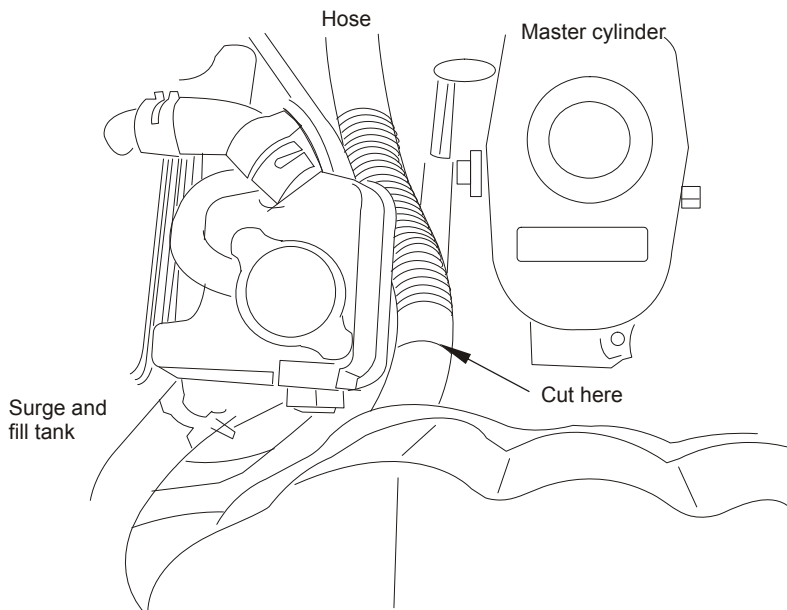

Figure 4.3
- Locate the heater return hose between the brake master cylinder and the cooling system surge container with the pressure cap (Figure 4.3).